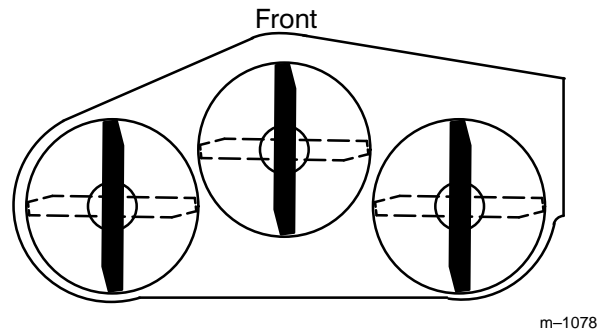
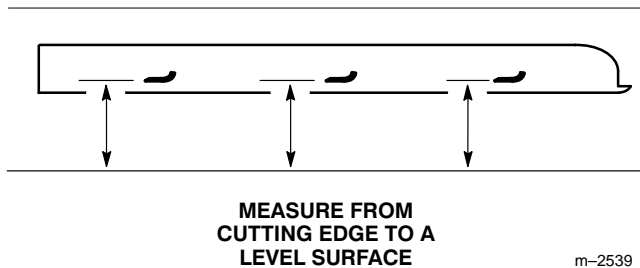

Figure 16
Figure 17
1. Rotate the blades until the ends face forward and backward (Fig. 16). Measure from a level surface to the cutting edge of the blades (Fig. 17). Note this dimension.